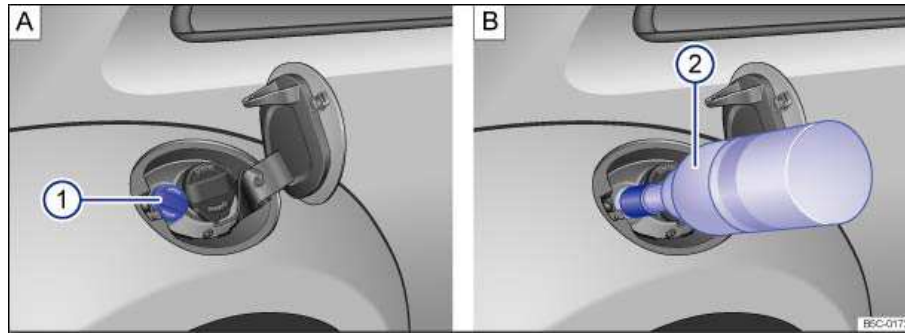

Fig. 139 AdBlue tank with filler neck cap 1 and refill bottle 2.
- Unscrew the AdBlue tank filler neck cap ⇒ fig. 139 \(1\) counterclockwise and remove.